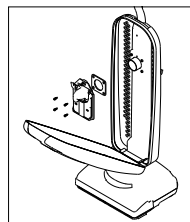

Fig. 1
2. Remove the bag mount screws, then remove the bag mount (Fig. 1).